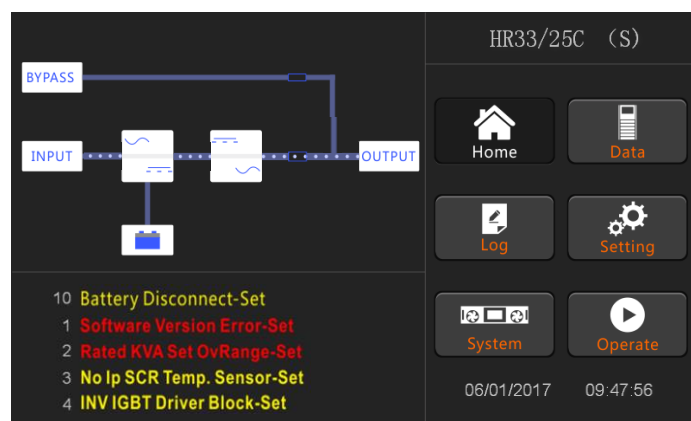

Fig.5-4 Interface of inverter mode
7. After about 30S, when the inverter is running normally, the UPS switches from the bypass to the inverter, the bypass indicator bar is off, and the load indicator bar flashes. As shown in Figure 5-4.